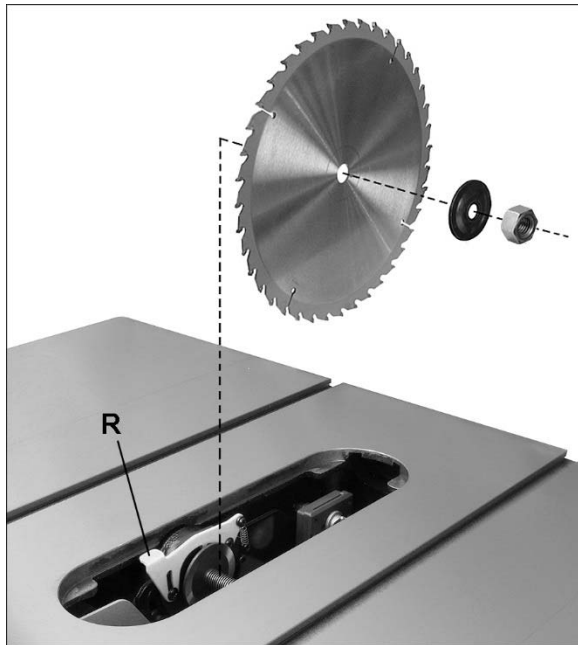

Figure 6-9: installing blade
See Figure 6-9.
6. Press down and hold lever (R, Figure 6-9), and rotate blade until arbor lock engages. Tighten nut clockwise with provided arbor wrench. Do not overtighten nut.
3. Pull clamp lever (S1, Figure 6-9) upward. The clamp plate (S2) is spring loaded and will move away from the fixed base, leaving a gap.